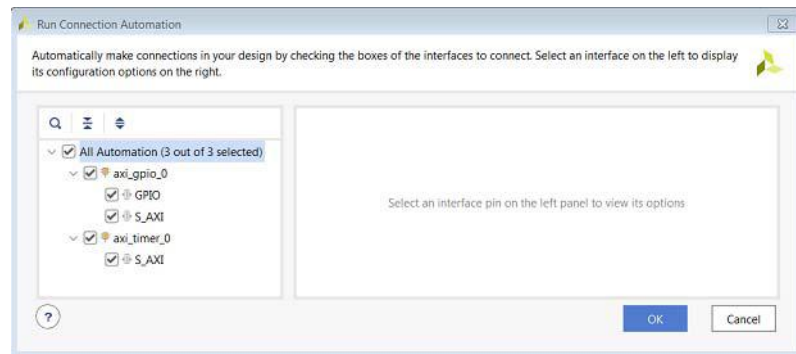

Figure 3-4: Run Connection Automation Dialog Box
16. In the Run Connection Automation dialog box, select the check box next to **All Automation**, as shown in Figure 3-4.